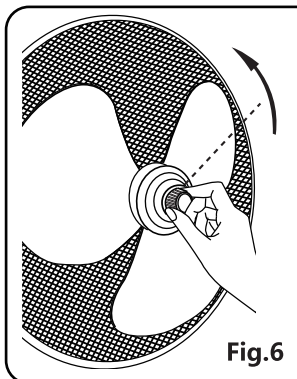

Fig.6
2. Mount the blade onto the shaft. Make sure that the rotor shaft pin fits into the groove of the blades. Turn the spinner anticlockwise to tighten the blades. (Fig. 6)